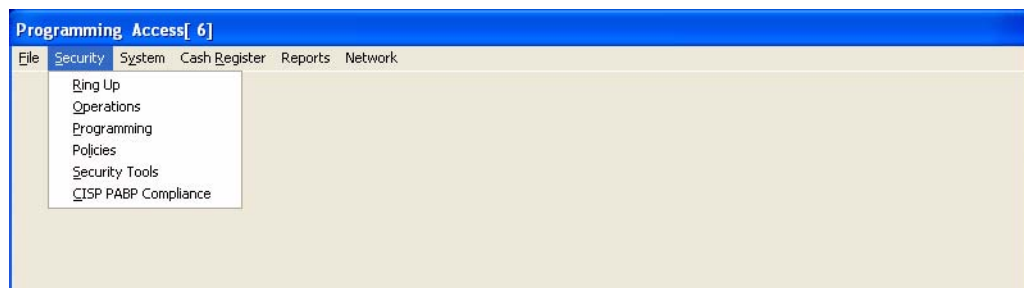

Figure 6-1 Programming Access Window
1. From the Programming Access window select **Security**. The system will display the Security pull down menu. See Figure 6-1.